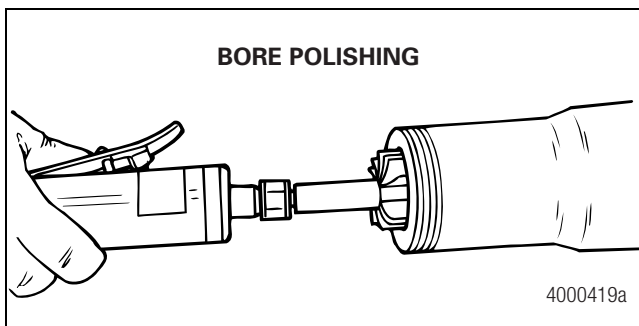

Figure 6
7. Polish the spindle bore to remove all adhesive residue left from the old spindle plug and any metal burrs or sharp edges from the spindle bore surface. Figure 6.